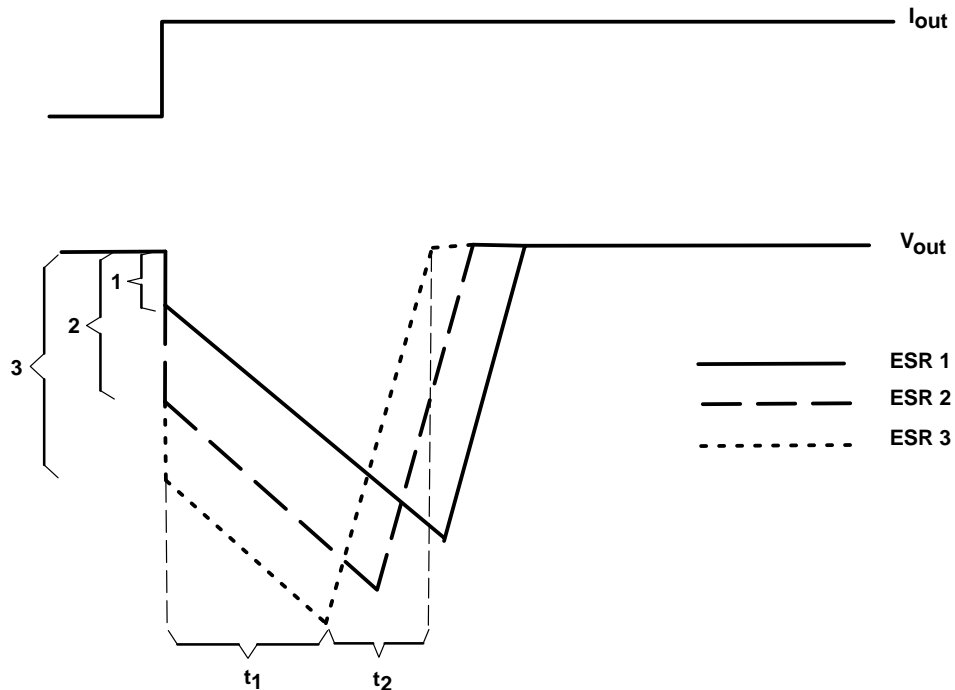

Figure 23. Correlation of Different ESRs and Their Influence to the Regulation of  $V_{out}$  at a Load Step From Low-to-High Output Current
- The LDO is not able to supply the sudden current need due to its response time ( $t_1$  in Figure 23). Therefore, capacitor  $C_{out}$  provides the current for the new load condition (dashed arrow).  $C_{out}$  now acts like a battery with an internal resistance, ESR. Depending on the current demand at the output, a voltage drop will occur at  $R_{ESR}$ . This voltage is shown as  $V_{ESR}$  in Figure 22.
- When  $C_{out}$  is conducting current to the load, initial voltage at the load will be  $V_{out} = V_{C_{out}} - V_{ESR}$ . Due to the discharge of  $C_{out}$ , the output voltage  $V_{out}$  will drop continuously until the response time  $t_1$  of the LDO is reached and the LDO will resume supplying the load. From this point, the output voltage starts rising again until it reaches the regulated voltage. This period is shown as  $t_2$  in Figure 23.